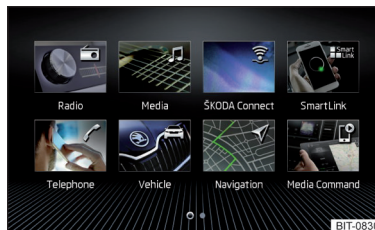
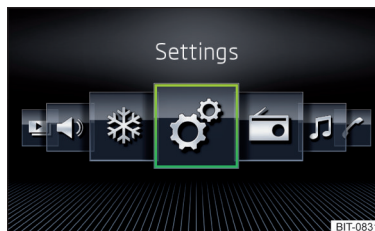

Fig. 177
Fig. 178
- ▶ Select the **Grid display** » Fig. 177 or **Horizont. Display** » Fig. 178 option.